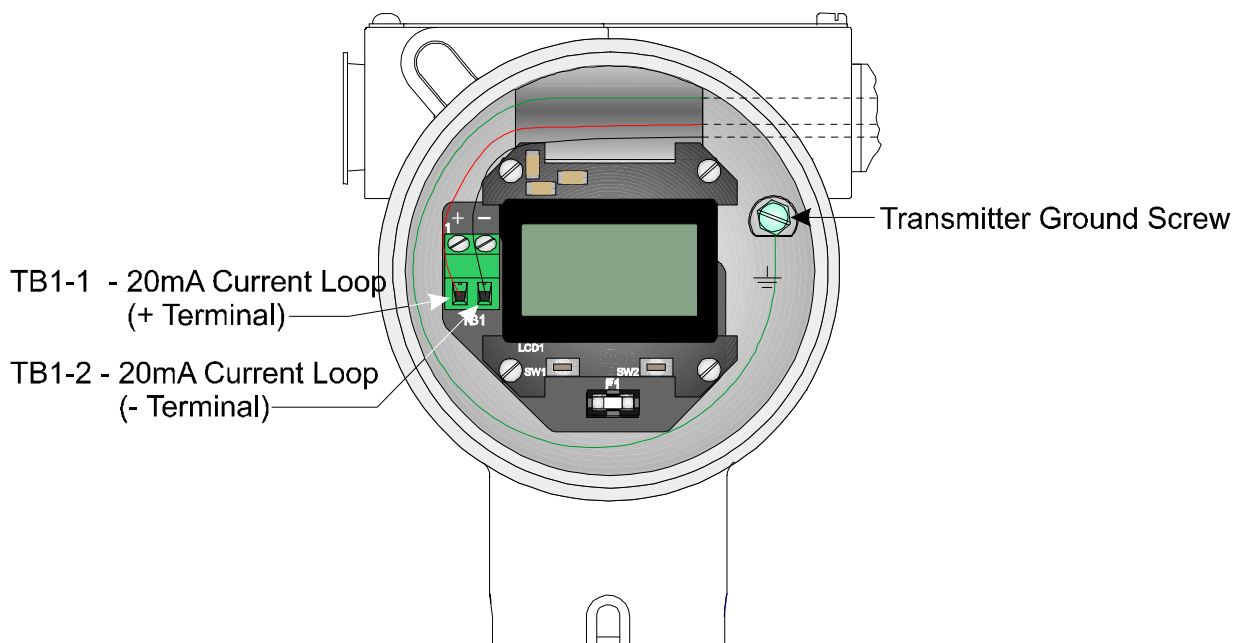

Figure 2-5 - Transmitter LPI Option Field Wiring
8. Connect the field wires to the compression-type terminals of Meter Motherboard Terminal Block TB1 (see Section 2.2 & Figure 2-5). Configure the LPI for operation (see Section 2.3.1).
Allow some slack in the wires when making terminal connections. The slack makes the connections more manageable and minimizes mechanical strain on the Meter Motherboard and the wiring harness (see Section 2.4 of M3600, M3601, M3602 and Figure 2-5 below).